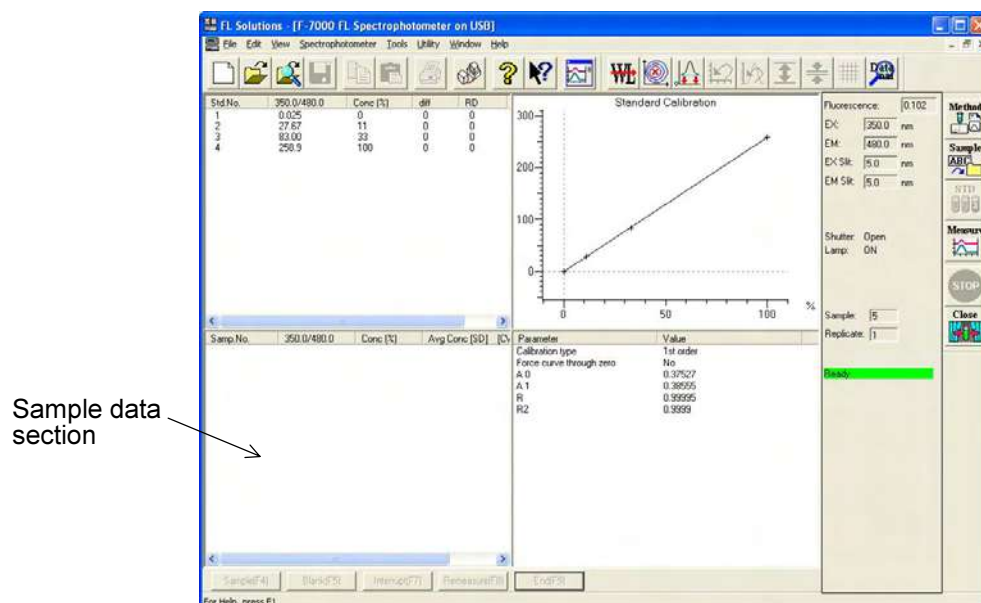

Fig. 4-50
- (4) The window in Fig. 4-50 is now displayed. The sample data section is blank.